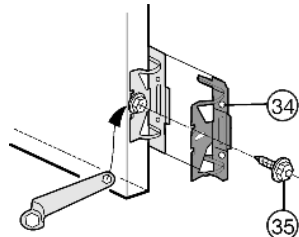

Fig. 13
- ▶ Screw mounting bracket *Fig. 13 (34)* with hexagon screw *Fig. 13 (35)* into the pilot holes in the appliance door.